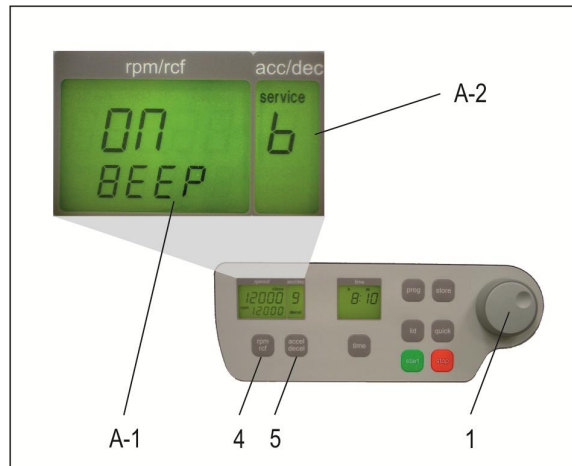

Figure 7
Proceed as described under point 1.8.1 to enter this program mode and then press the key „accel/decel“ (5). In the display „accel/decel“ (A-2) flashes the word „service“. Now select the letter „b“ with the adjusting knob (1). As a result appears in the display „rpm/rcf“ (A-1) the word „ON/BEEP“. After pressing the key „rpm/rcf“ (4), you can turn the keyboard sound (On) or (Off) with the adjusting knob (1). (see figure 7).